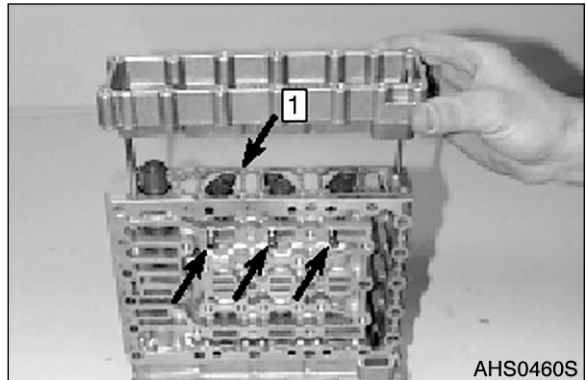

Figure 63
- E. Line up flat gasket (1, Figure 63) and housing cover and bring them uniformly against shoulder, using adjusting screws.